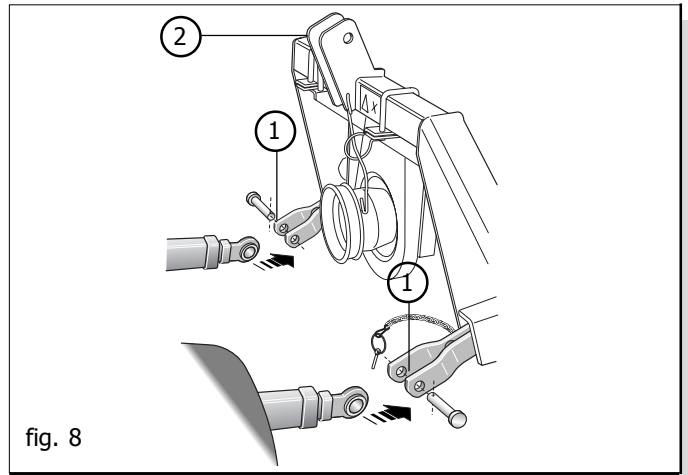

fig. 8
- 1) Hook the lifter bars onto the pins provided (1 Fig. 8) Block with the snap split pins.